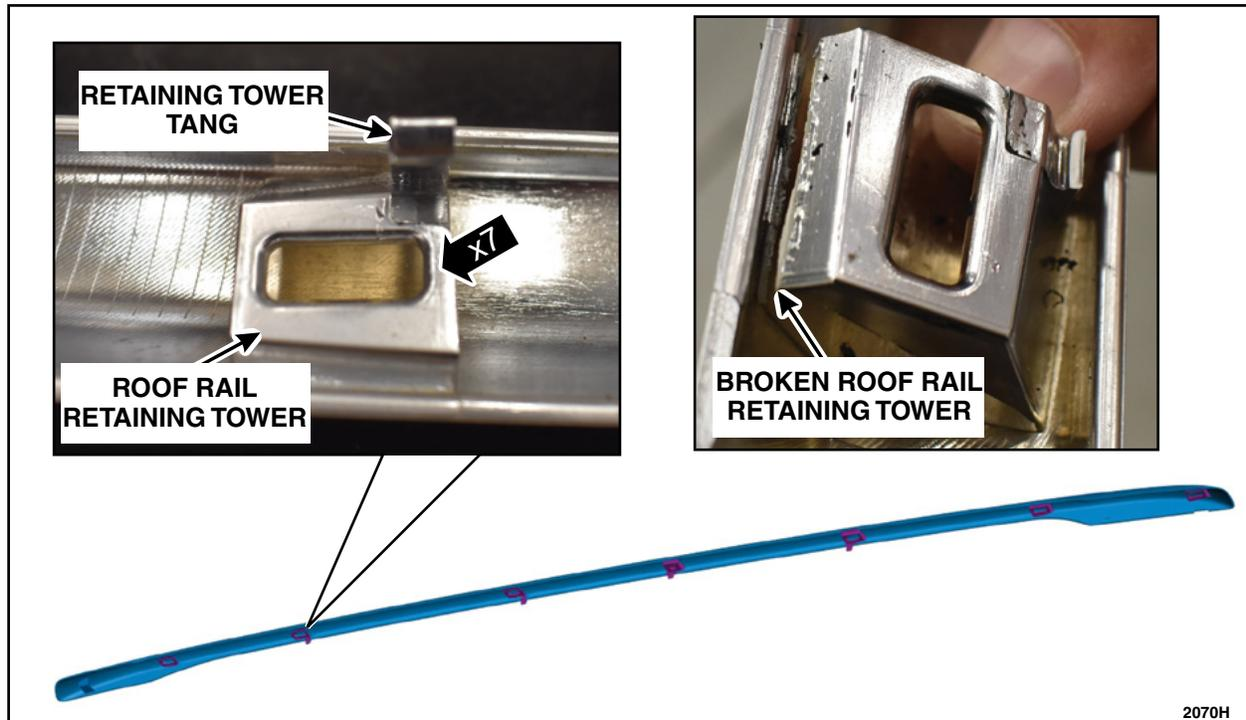

FIGURE 3
3. Inspect the roof rail cover retaining towers and front tab. Are any of the seven retaining towers or front tab missing and or broken? See Figure 3.